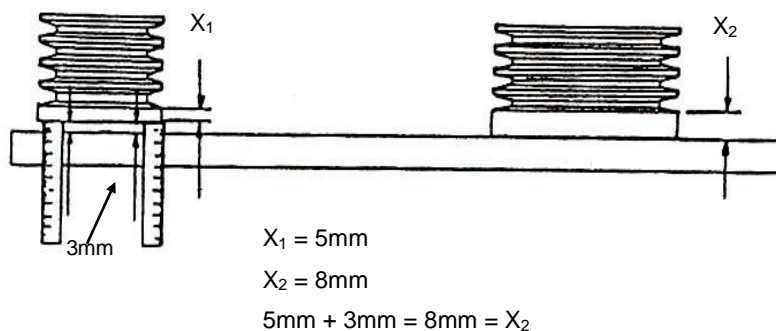

FIG 15.
- When there is a difference in the dimension "X", allowance must be made to compensate for the difference in size from the outside face to the first groove, e.g. In Fig 15, $X_1 = 5\text{mm}$ and $X_2 = 8\text{mm}$, i.e. there is a difference in X of 3mm.